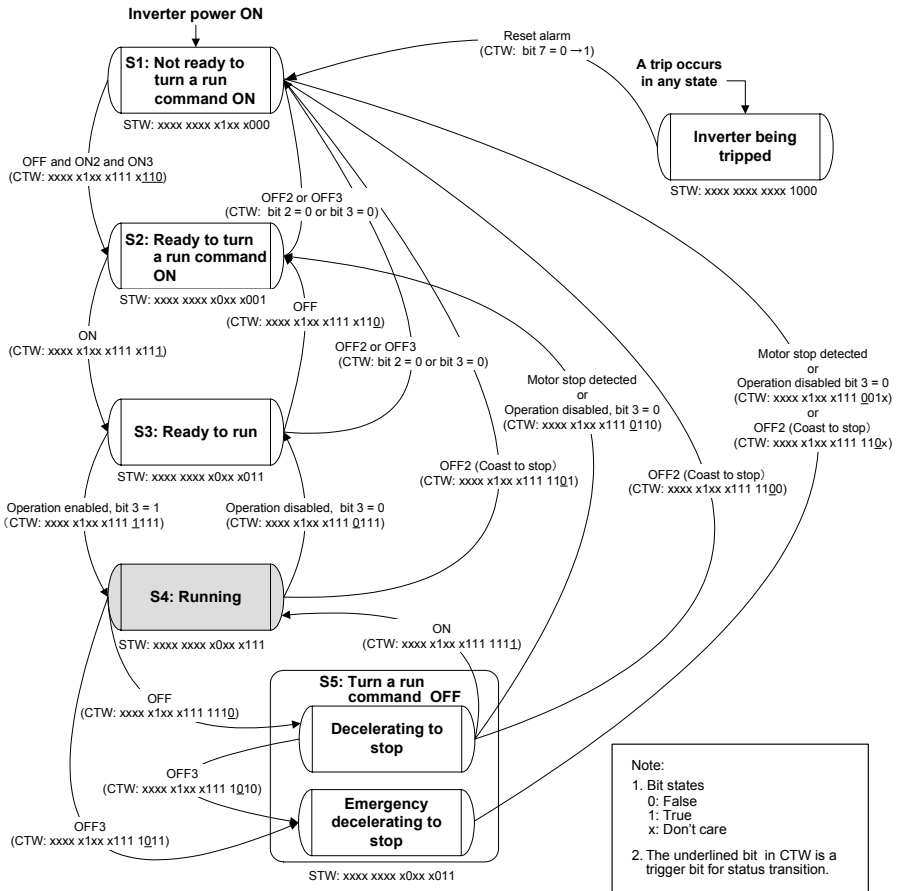

Figure 8.2 Status Transition Diagram of PROFIdrive Profile
For the status transition condition of the PROFdrive profile, refer to Section (2) "STW (status word)" and Figure 8.2 on the following pages.
(2) STW (Status word)
STW indicates the status transition of the PROFIdrive. The status transition details are shown in Figure 8.2.
Figure 8.2 shows a status transition diagram of the PROFIdrive profile.
Note In Figure 8.2, to simplify the description, values of Bit 4 to Bit 6 and Bit 10 in CTW are always "1." If any one of these bit values is not "1," the inverter will not enter the running state even if the status transition properly proceeds.